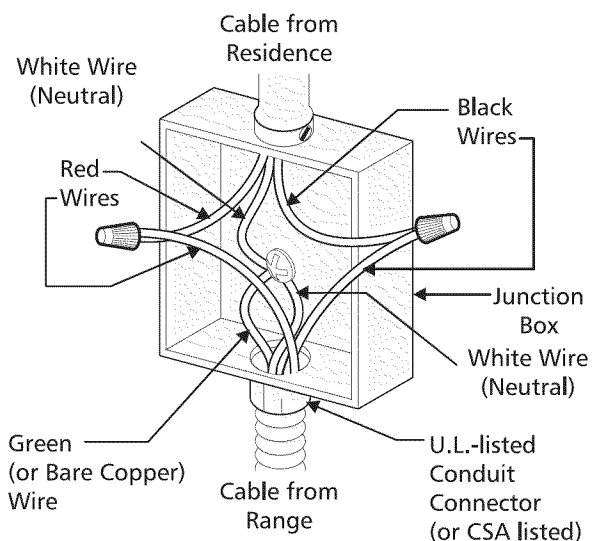

Figure 5
## Where local codes permit connecting the appliance-grounding conductor to the neutral (white) wire (see Figure 5):
2. In the circuit breaker, fuse box or junction box connect the appliance and residence cable wires as shown in figure 5.